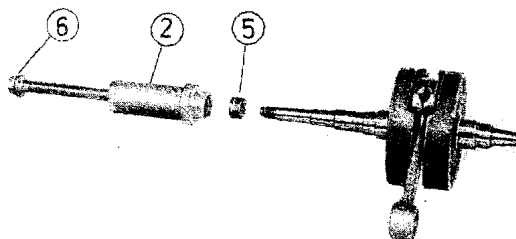

Fig. 28. Pressure member - demonstration
- Remove the separating disk (6) (rubber) from the oil catch-pocket of the housing;
- Fasten the assembly bridge (1) 22-50.430 with the clutch puller (2) inserted on the clutch side of the left-hand housing half by means of the fastening screws (3) and (4).
NOTE: Before mounting the clutch puller, in any case place the pressure member (5) on the centring collar of the crankshaft (Fig. 28)!
- Press out the crankshaft by turning the pressure spindle (6) of the clutch puller clockwise; support the crankshaft with your right hand from below and retain it so that it cannot fall down when it leaves the bearing seat.